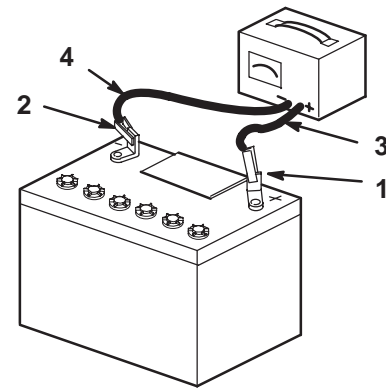

Figure 7
8. When the battery is fully charged, unplug the charger from the electrical outlet, then disconnect the charger leads from the battery posts (Fig. 7).